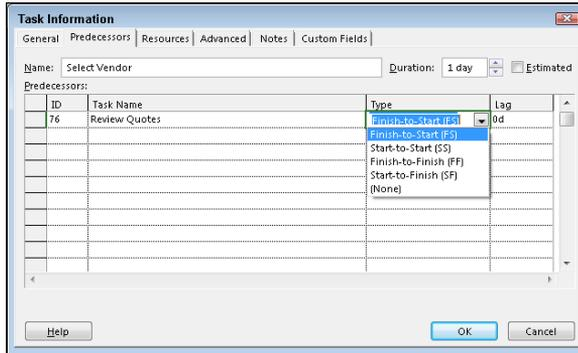

Figure 4-7:
2. **Click the Predecessors tab, as shown in Figure 4-7.**